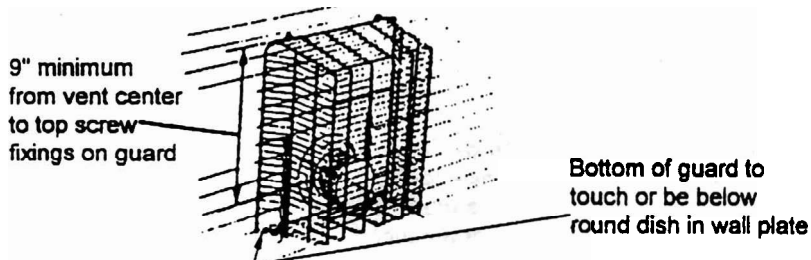

Fig. 4 Terminal guard #235
- 4.11 **Warning:** If the outside vent terminal is located where it will be accessible to any person, a guard must be fitted over the terminal to prevent damage and to prevent it being touched. The vent terminal becomes very hot when the appliance is in use and can cause burns. A special guard designed for this appliance is available from your supplier - Ask for Valor part #235 (See figure 4).